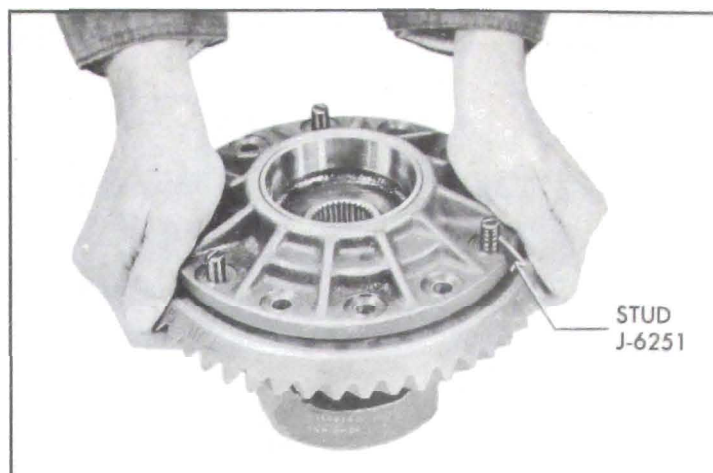

Figure 6-32—Installing Ring Gear on Differential Case
4. After making sure that mating surfaces of case and ring gear are clean and free of burrs, bolt ring gear to case using three Studs J-6251 to align parts. See figure 6-32. If same ring gear and case are used, line up marks so they are assembled in same relative positions.